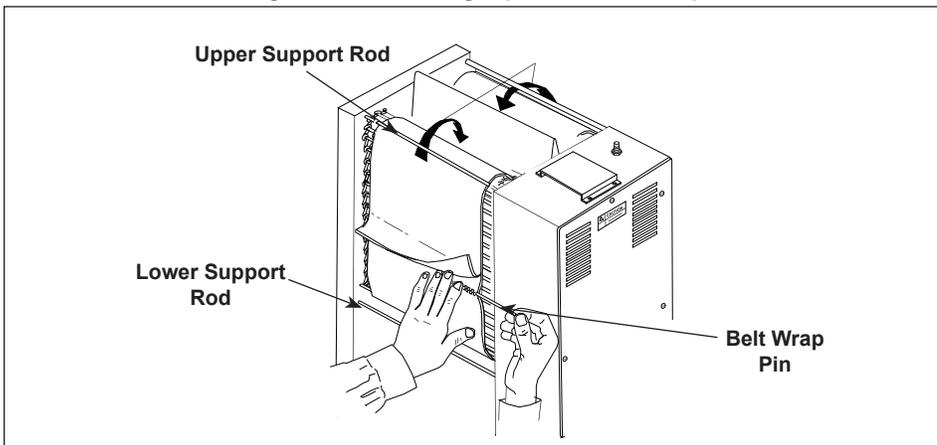

Figure 7. Installing Belt Wrap
6. Install the new Belt Wrap(s) around the Conveyor Belt Chains inside the yellow rods with the zipper flap exposed and hanging down (Figures 7 & 8).
Bun Thickness Compression Knobs set improperly.	Measure bun thickness and set Bun Thickness Compression Knobs correctly (Figure 7).